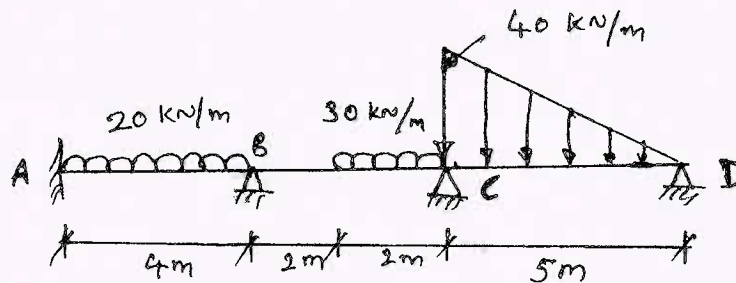

Fig Q5
- 5 Analyse the continuous beam shown in Fig Q5 by rotation contribution method. Draw bending moment diagram and shear force diagram.